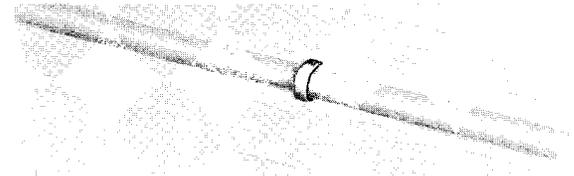

Fig. 3 – Staple
3.04 *Staples* used for fastening jacketed wire do not have rust- and corrosion-resistant properties and are not to be used outside (see Fig. 3 and Table C).